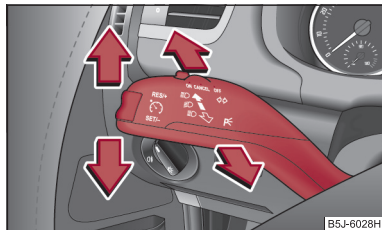

Fig. 40 Turn signal and main beam lever
- Push the lever upwards or downwards  fig. 40.